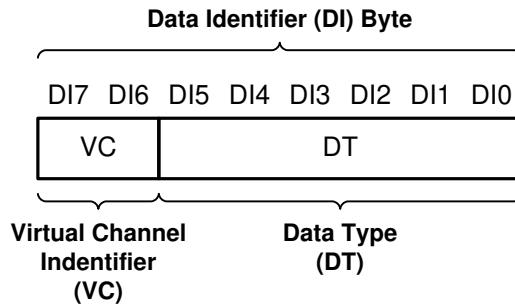

Figure 7-10. CSI-2 Data Identifier Structure
The DS90UB960-Q1 MIPI CSI-2 protocol interface transmits the data identifier byte containing the values for the virtual channel ID (VC) and data type (DT) for the application specific payload data, as shown in Figure 7-10. The virtual channel ID is contained in the 2 MSBs of the data identifier byte and identify the data as directed to one of four virtual channels. The value of the data type is contained in the 6 LSBs of the data identifier byte. When partnered with a DS90UB935-Q1 or DS90UB953-Q1 serializer, the Data Type is passed through from the received CSI-2 packets. When partnered with a DS90UB933-Q1 or DS90UB913A-Q1 the received RAW mode data is converted to CSI-2 Tx packets with assigned data type and virtual channel ID.